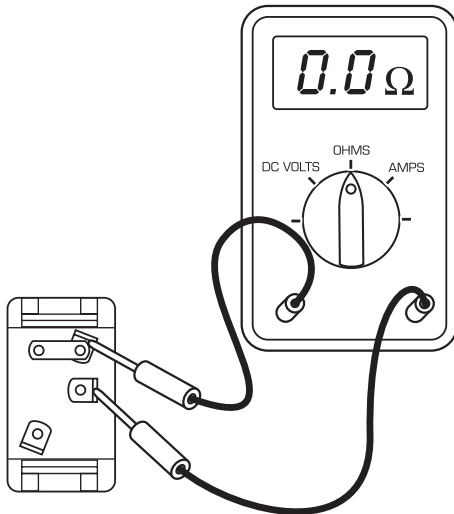

Figure 58
2. **Switch ON.** Connect ohmmeter between rocker switch input power terminal and its output power terminal (Figure 58). Ohmmeter must indicate **continuity**.